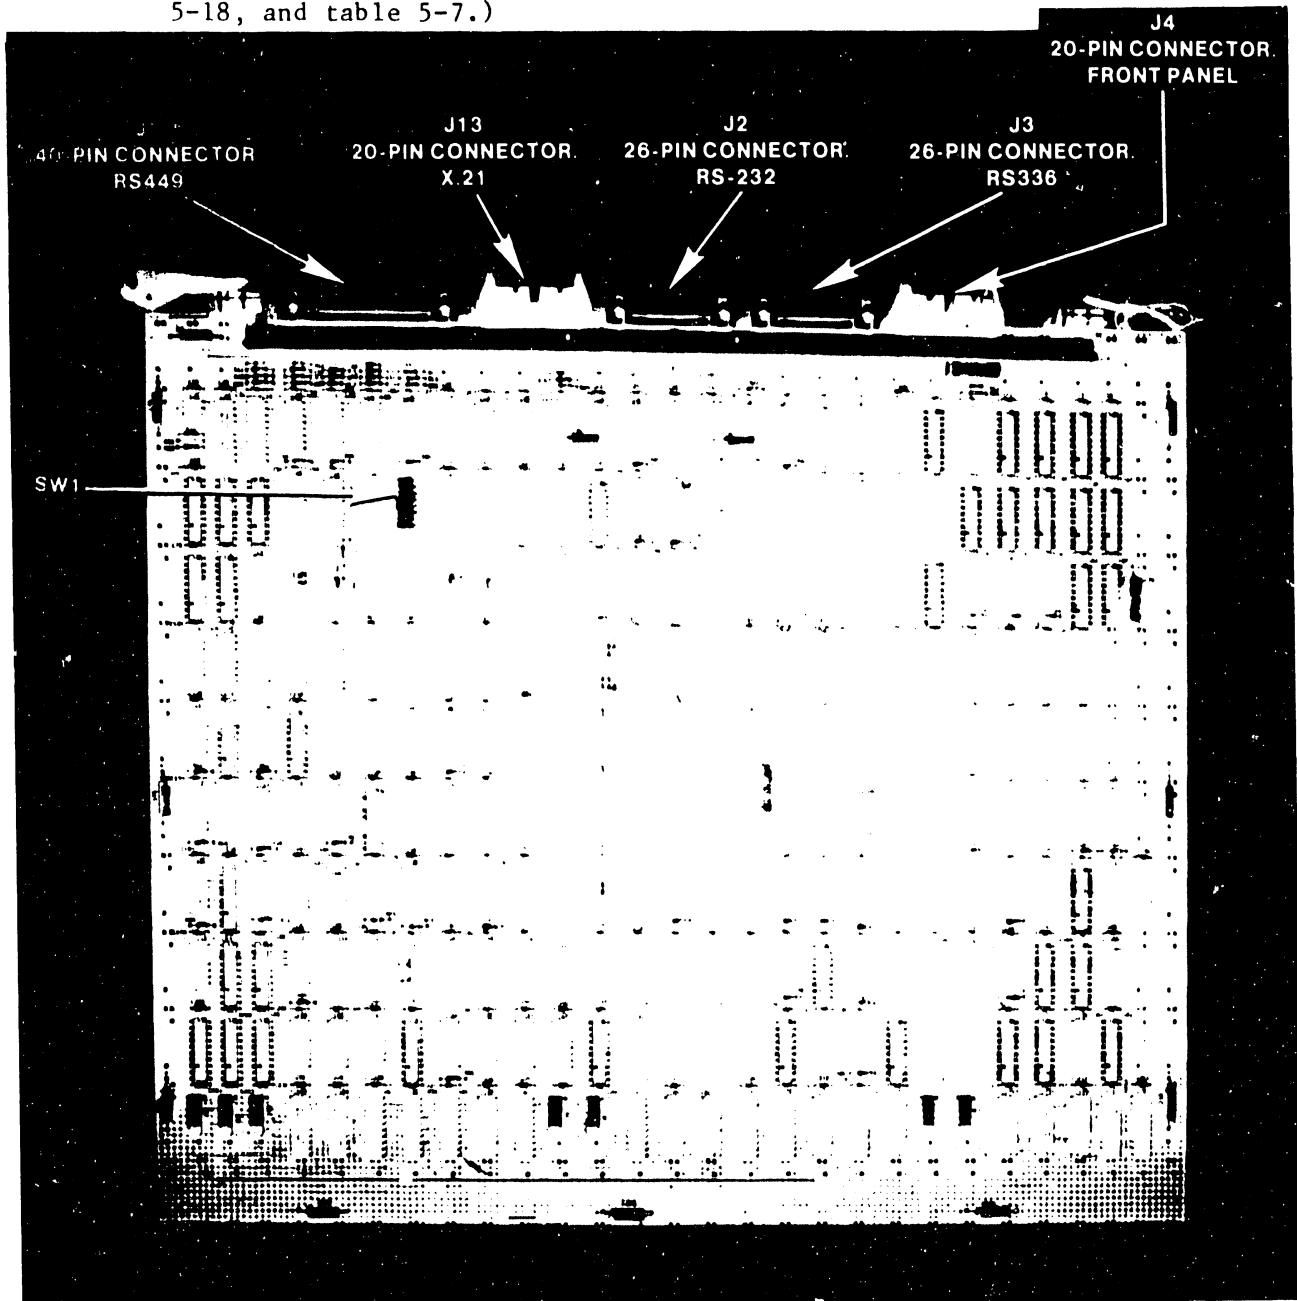
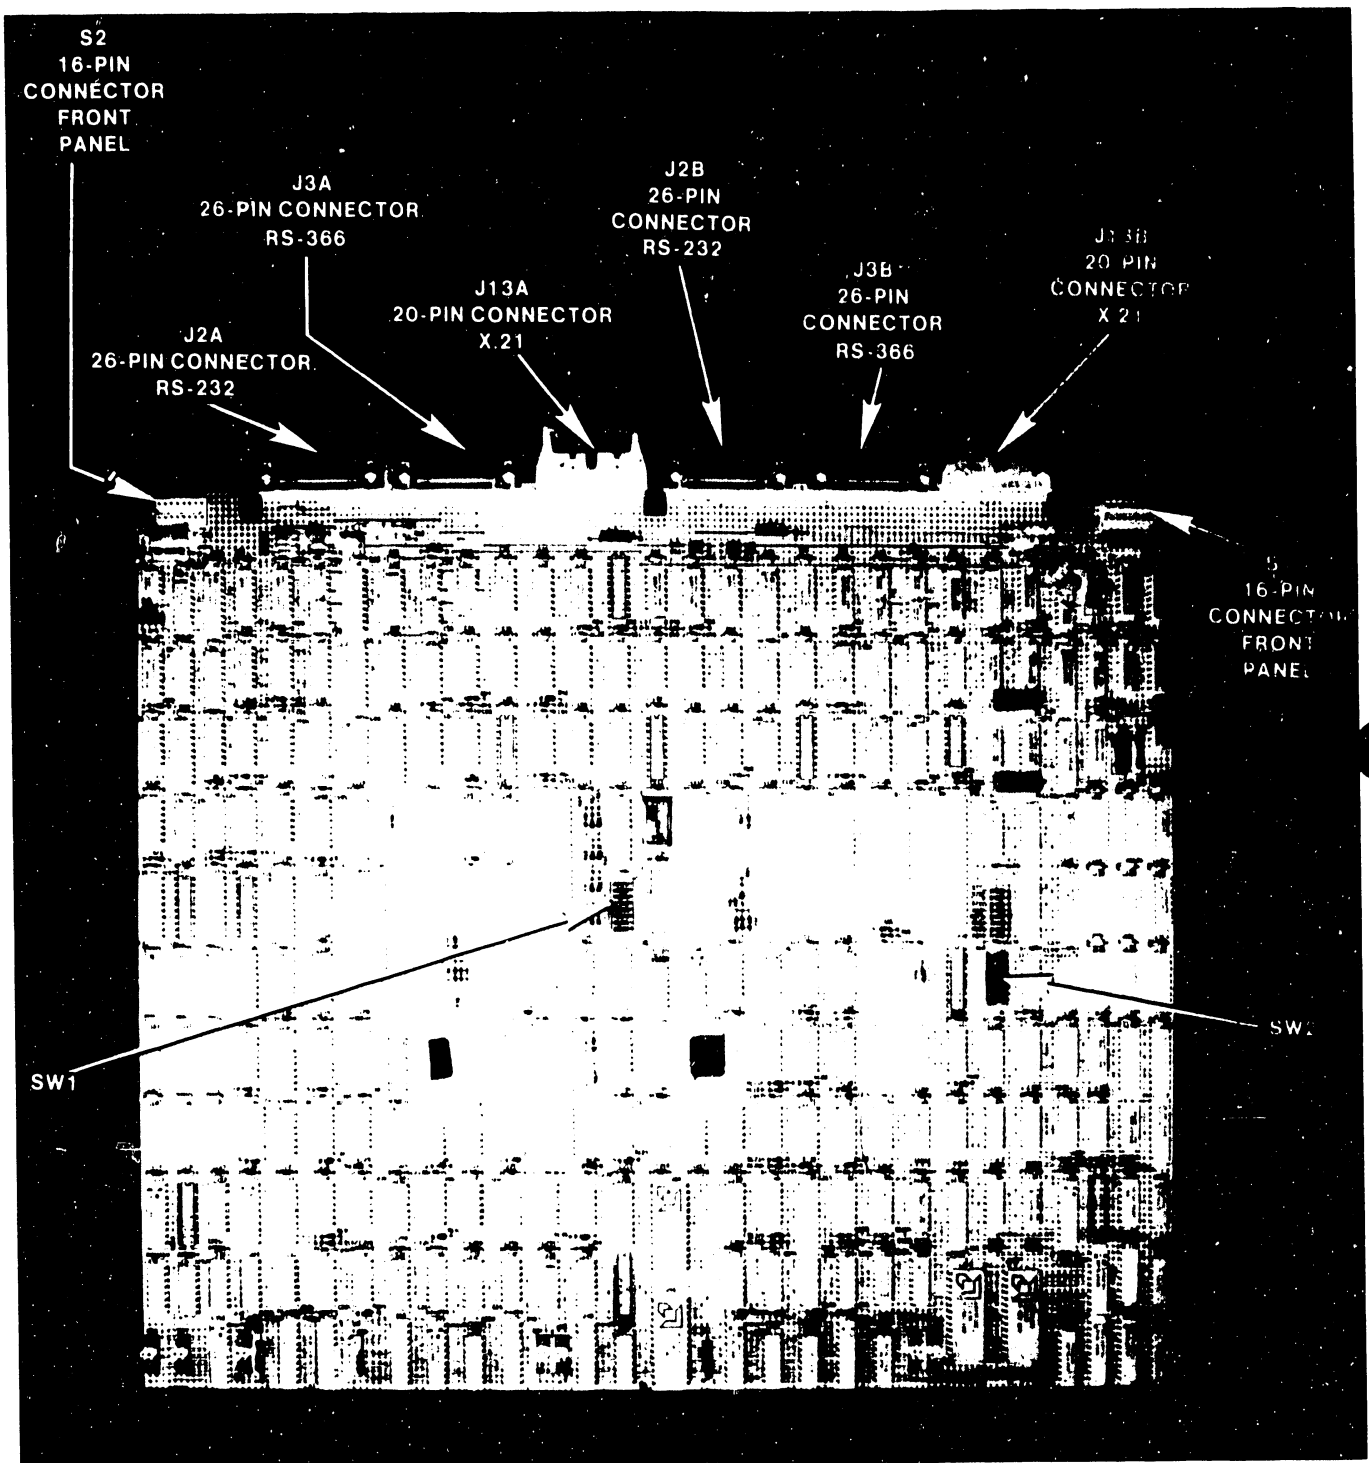

Figure 5-16. 210-8337 1-Port Telecommunications Adapter.
Figure 5-17. 210-8637 2-Port Telecommunications Adapter.
1. Remove all connectors from the top of the 1-port 210-8337-A Telecommunications Adapter (figure 5-16) or 2-port 210-8637-A Telecommunications Adapter (figure 5-17) in Motherboard slot #9 (I/ODA6). Note the position of all connectors for later reassembly. (Note the position of all cables on the boards that are already installed in the system. Some of these cables may have to be removed to allow removal and replacement of the Telecommunications Adapter.)
3. Check the settings of the 8-position Address/Status switch(s) SW1 (1-port) and SW2 (2-port). (See figures 5-16, 5-17, and 5-18, and table 5-7.)